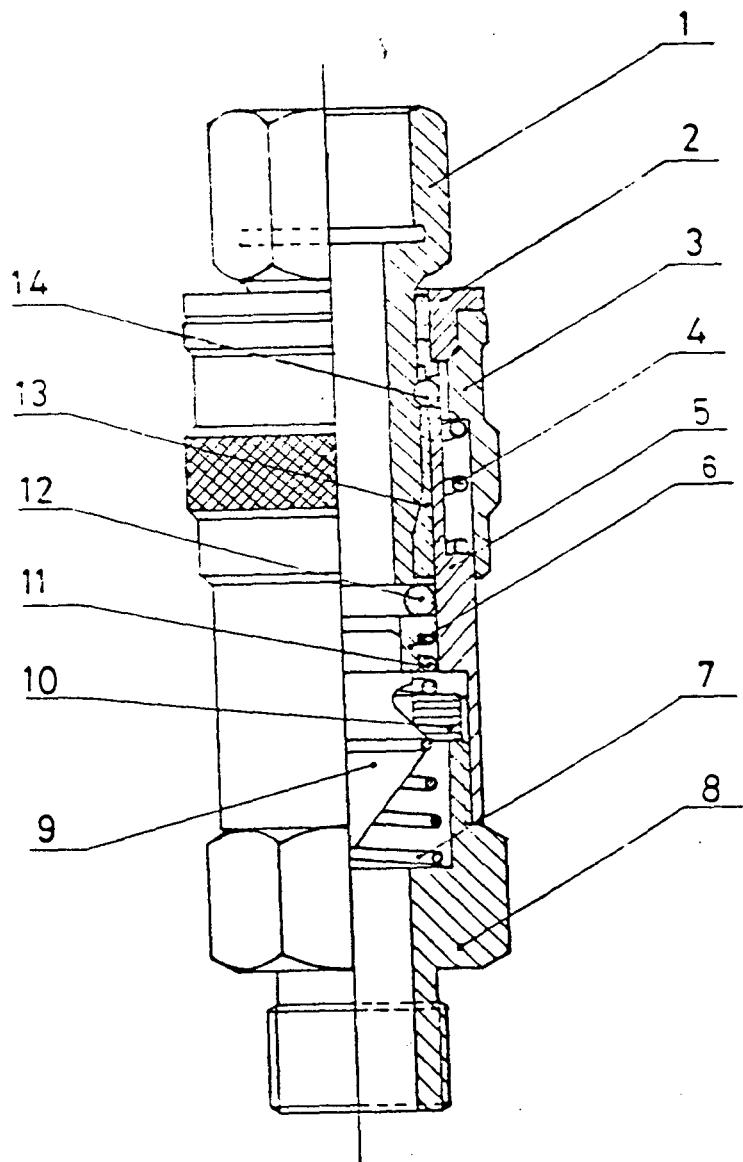

FIG. 21
Quick coupling is provided in the brake van for attaching detachable pressure gauge to the brake van. General arrangement is shown in fig. 21. Once the gauge is removed the quick coupling automatically closes the outlet passage.
The Quick coupling consists of a plug (1) and Socket consisting of items 2 to 14 of fig. 21 . The plug (1) shall be a part of pressure gauge and will be kept as Gaurd's property. It works on single push & pull principle . The plug when pushed into socket is securely held by the self locking arrangement resulting in a positive and leak proof connection . This connection simultaneously opens the valve and air flow starts. To disconnect, pull back the locking ring (3) of the socket, the plug eject out and valve shuts off automatically.